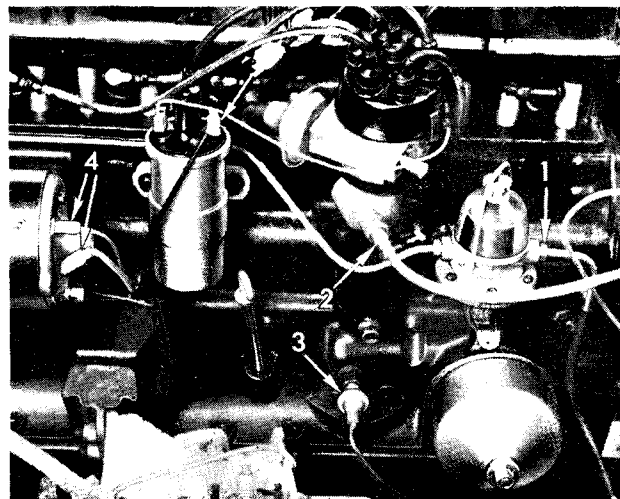

Fig. 5. Left-hand view of engine
6. Referring to Figs. 5, 6 and 7, remove the fuel inlet pipe from the fuel pump (1), disconnect the tachometer drive cable from the distributor (2). Release the oil pressure switch and generator leads (3) and (4). Release ignition lead (5) from the coil.
7. Disconnect the heater pipes (6) and (7) and remove the cable from the water control valve (8). Disconnect the choke and throttle controls (9) and (10). Disconnect the lead (11) from the starter motor. Disconnect the earth wire (12) from the bell housing.
8. Release the temperature transmitter electrical connection (13). And servo pipe connection (GT6 Mk. 3).